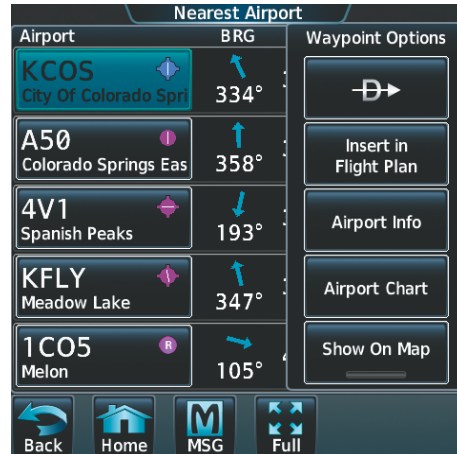
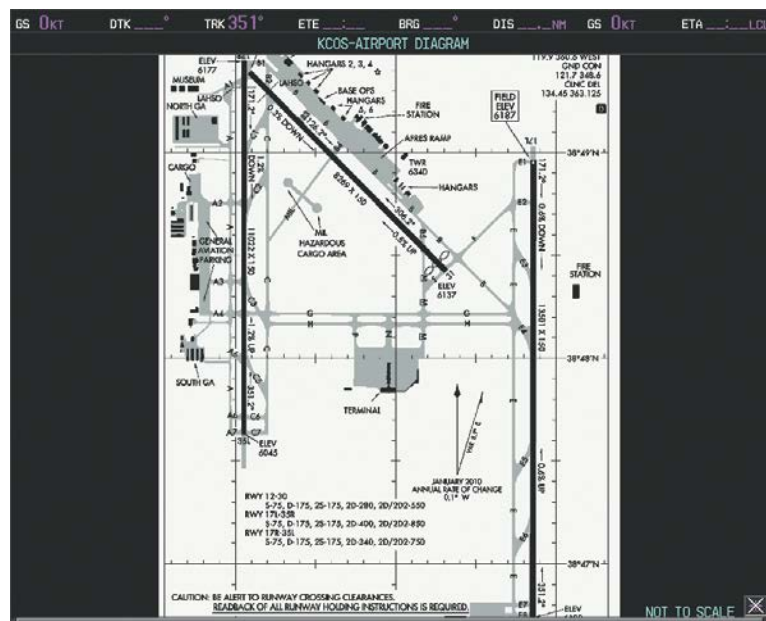

Figure 8-23 Airport Diagram Selection
Figure 8-24 Airport Chart for Selected Airport
- 2) Touch the desired airport button. KCOS is selected in Figure 8-23. The **Waypoint Options** buttons are now displayed.
- 3) Touch the **Airport Chart** Button. The **Info** Tab selections are displayed on the Touchscreen Controller (Figure 8-23) and the Airport Diagram is displayed on the selected Display Pane (Figure 8-24).